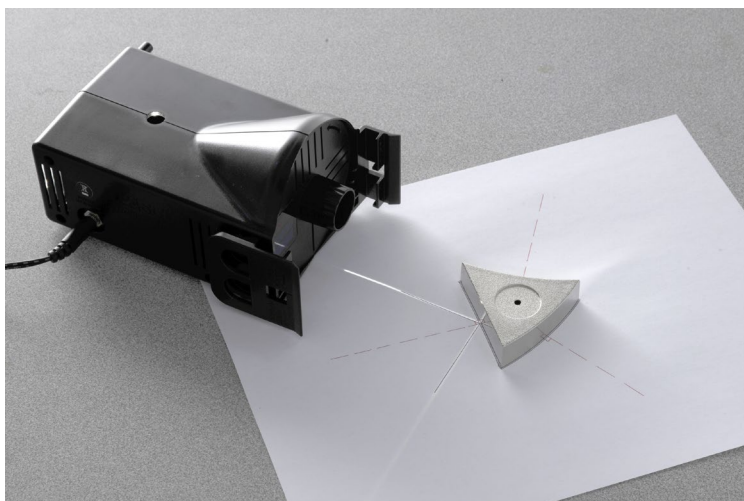

Figure 6: Flat Mirror Reflection
2. Place the basic optics light source flat on the lab table and rotate the knob on the front of the light source to produce a single ray of light as in Figure 6.
3. Adjust the position of the light source so the single light ray hits the plane mirror at the point the normal line extends from the outline as in Figure 6.